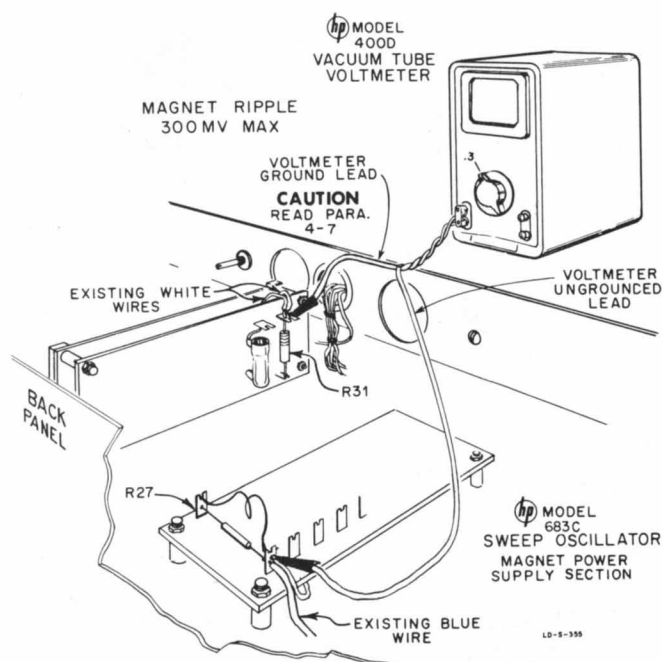

Figure 4-4. Measuring Magnet Circuit Ripple
4) Check ripple voltage (note the WARNINGS below). Connect 403A or 400D voltmeter to upper end of R31 (white wire) and right-hand end of R27 (blue wire). See figure 4-4. The wires to the 400D should be twisted to prevent excessive hum pickup. The hum or ripple voltage across the magnet must be less than 100 millivolts with the line voltage varied over any value of the range of 103 to 127 volts.